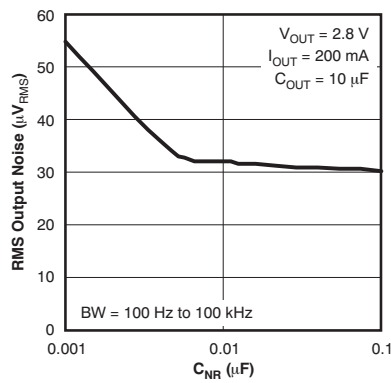

Figure 6.
• Corrected units in y-axis of <a href="#">Figure 6</a> .....	<a href="#">5</a>